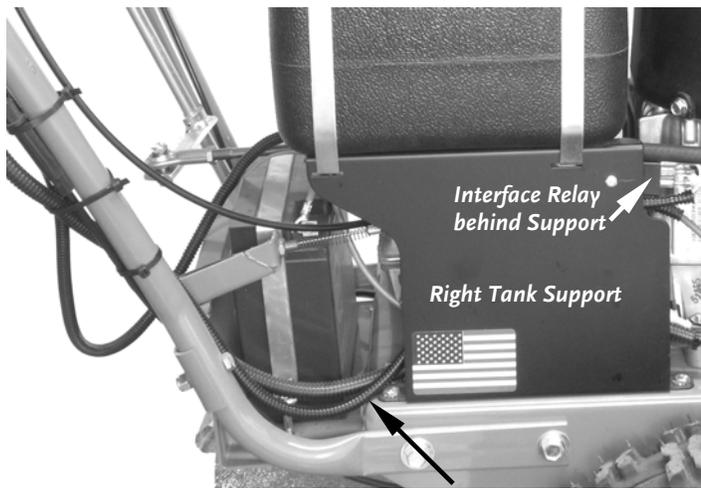

Figure 17
7. Run the lower end of the new Interface Relay Harness, with the Relay attached, down along the handlebar and in back of the Right Tank Support (**Figure 17**).